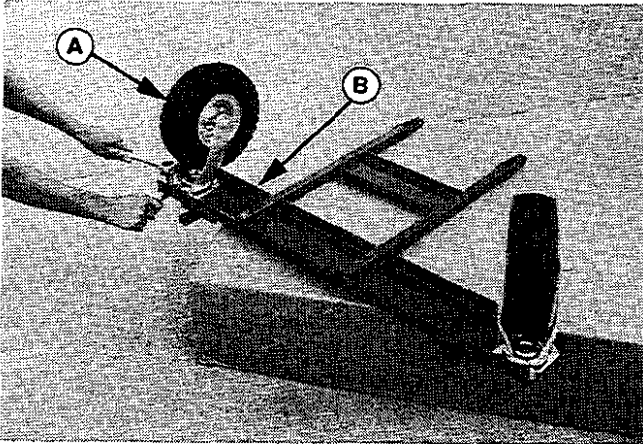
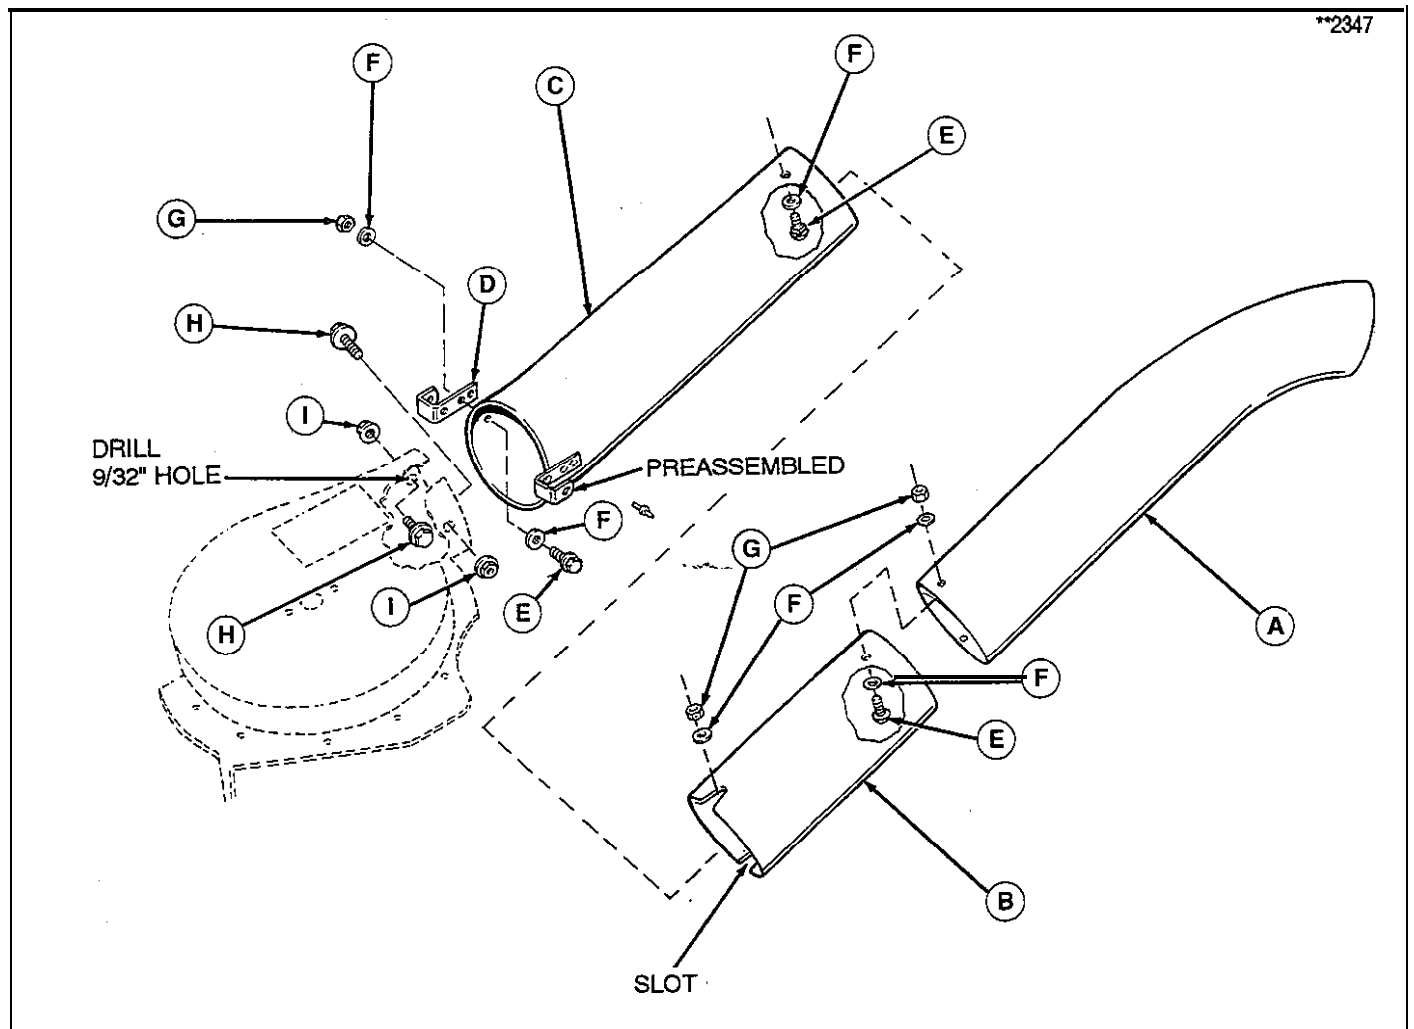

Figure 2
Figure 18
1. Install the wheel assemblies (A, figure 2) to the frame (B). Place the head of the swivel wheel on the end of the frame. Align the holes and place four  $3/8$ - $16 \times 1$  hex bolts up through the frame and head of the swivel. Secure with four flat washers ( $13/32$  I.D.,  $7/8$  O.D.) and  $3/8$ - $16$  locknuts.
1. Install the spring clip (D, figure 18) with two 10-32 x 1/2 truss head screws (E), four flat washers (F), and two locknuts (G).
2. Install 1/4-20 x 5/8 carriage bolt (H) through hole in turbo housing. Secure with 1/4-20 flange locknut (I).
3. Position the lower tube (C) onto turbo housing and hook inside spring clip onto flange locknut (I, installed in step 2). Mark hole location on opposite side of turbo housing for outer spring clip.
4. Remove lower tube and drill 9/32 hole in turbo housing and install 1/4-20 x 5/8 carriage bolt (H) through hole. Secure with 1/4-20 flange locknut (I).
5. Assemble the upper tube (A) onto middle tube (B) as shown in figure 2 with two 1032 x 1/2 truss head screws (E), four flat washers (F), and two locknuts (G).
6. Install two 10-32 x 1/2 truss head screws (E), four flat washers (F), and two locknuts (G) to the top holes in the lower tube (C). Leave hardware loose.
7. Install upper tubes (A and B) to lower tube (C) and tighten hardware.
8. Install tube assembly into cart sleeve and onto turbo housing. Hook spring clips (D) onto flange locknuts (I) installed on turbo housing.